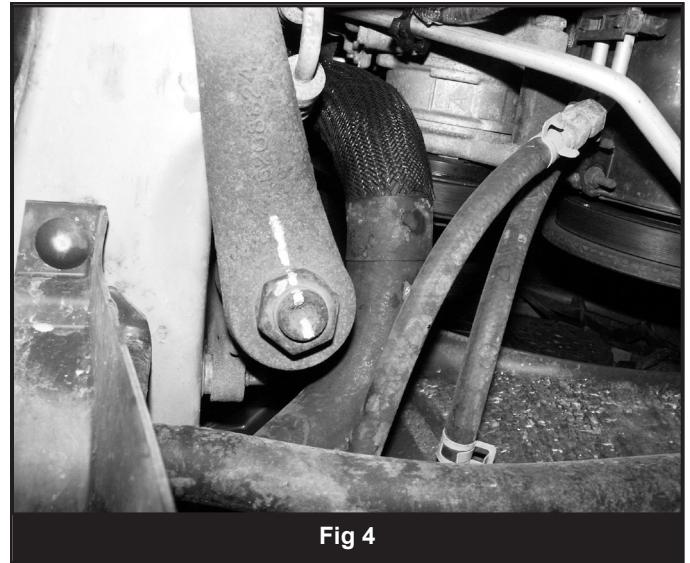

Fig 4
- 11. Important: Make an indexing mark on the pitman arm and steering box sector shaft to indicate the relationship between the two for installation (Fig 4)** Remove the pitman arm nut and washer. Using a pitman arm puller remove the pitman arm from the sector shaft.